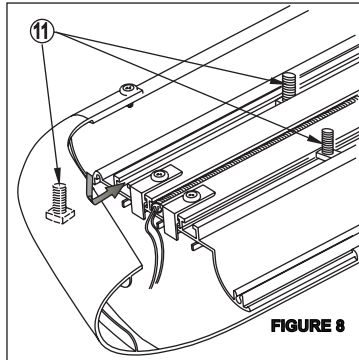
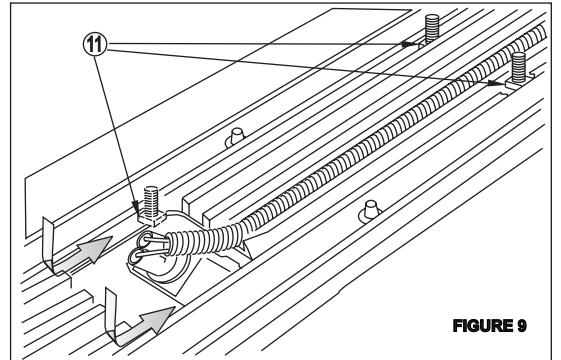

FIGURE 8
FIGURE 9
STEP 5. Insert square head bolts as shown. **SEE FIGURE 8 AND 9.**
NOTE: For lighted boards, run wiring harness prior to attaching board to brackets (refer to Step 8). **SEE FIGURES 8, 9 AND 10.** Run longer wire harness on passenger side.
HINT: Molded Step Boards: For longevity, check rubber seals before installation. Rubber grommets around red and blue wires going into rear sockets, should be inserted and recessed about 1/4". **NOTE:** Remove bulbs and apply white grease into sockets and replace bulbs. Apply RTV Silicone where lights go into socket. Install lights and run wire loom as shown. **SEE FIGURE 9.** For Sure-Grip Running Boards, run wire loom down center as shown. **SEE FIGURE 8.**